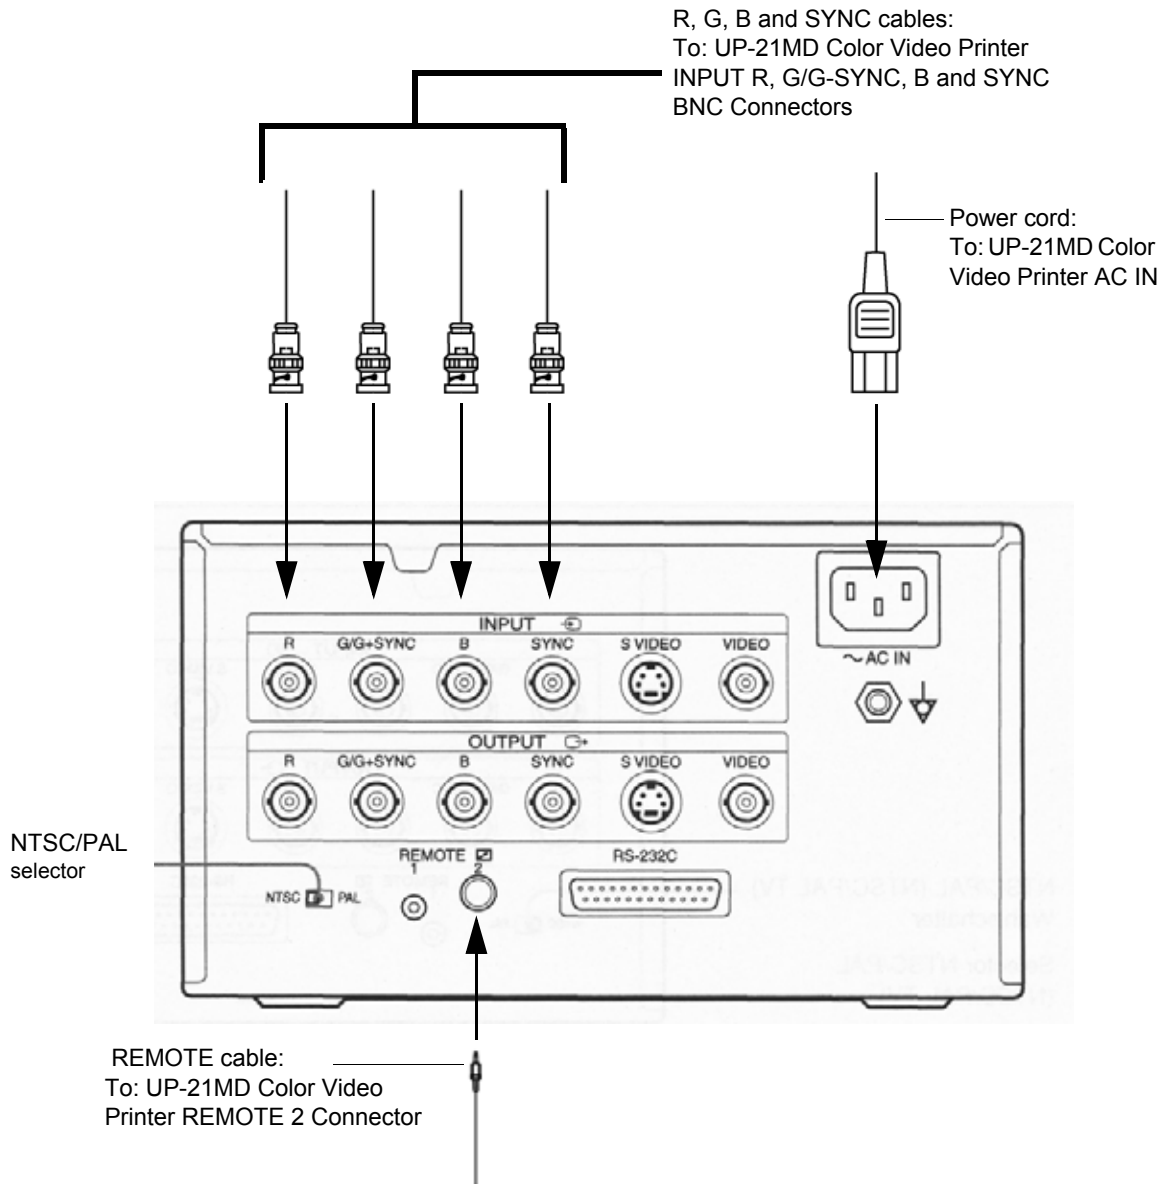

Figure 8-175 Sony UP-21MD Color Video Printer Connection Cables
- 19) Connect the RGB and SYNC cables, Color Printer Remote cable, and AC power cable (hanging out of the Bottom Metal Cover slot - see Figure 8-169 on page 8-168), to the UP-21MD Color Video Printer, as shown in the diagram in Figure 8-175 on page 8-172.